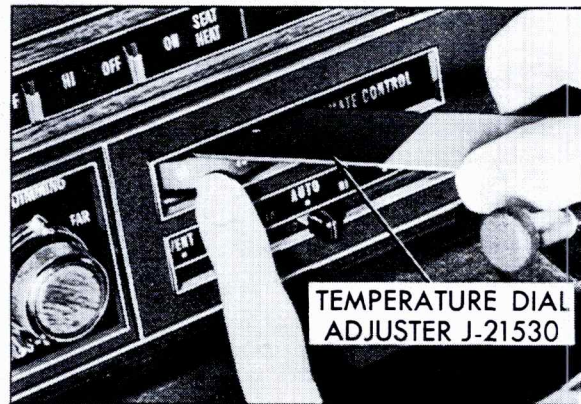

Fig. 1-32 Adjusting Front Temperature Dial
5. Insert Temperature Dial Adjuster, J-21530, between dial and control panel face, Fig. 1-32. While holding the gear in position, rotate the dial until the dial reading corresponds to the thermometer reading.
5. Adjust temperature dial to read 75° when amplifier output is 5.5 to 6.5 volts. See Fig. 1-32.